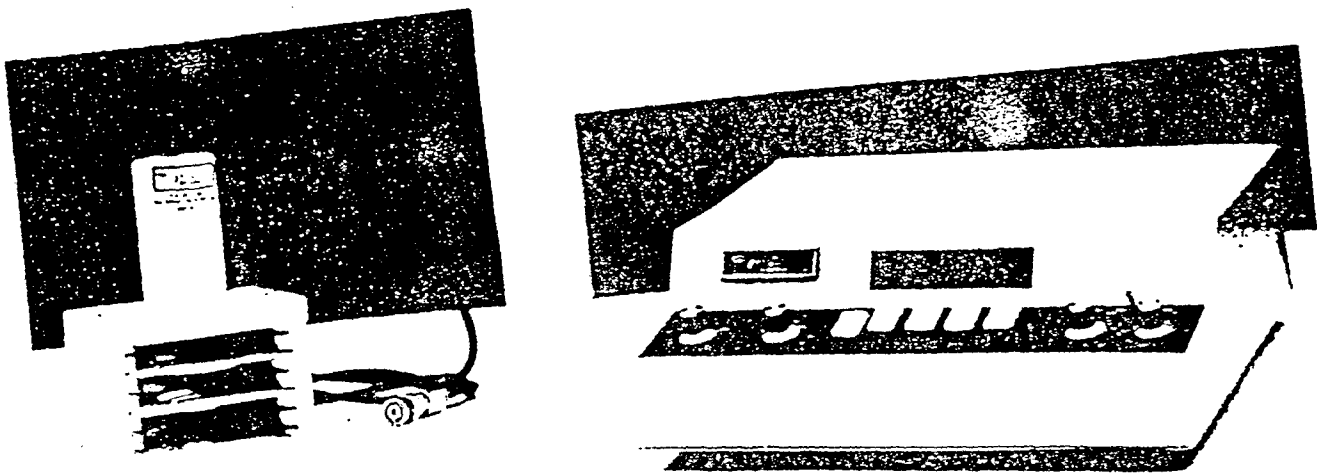

Figure 1
The Geiger-Muller tube (the tube) detects ionizing radiation (Fig. 1). It consists of a wire inside of a cylinder that contains a gas at low pressure. A high electric voltage (HV) is maintained between the wire and the metal walls of the tube. When radiation passes into the tube through a thin window it ionizes some of the gas inside. The liberated electrons are accelerated toward the collector wire, and in their flight they strike other molecules with sufficient energy to cause further ionization. Each additional electron also is accelerated and will cause further ionization. An electron avalanche takes place. On reaching the collector wire there is a sufficient number of electrons (many millions) that a detectable pulse of current can be sensed electronically. This is registered on an appropriate display. Because of differences in construction, all Geiger-Muller tubes do not operate satisfactorily at the same voltage, and so the operator must determine the correct voltage value.